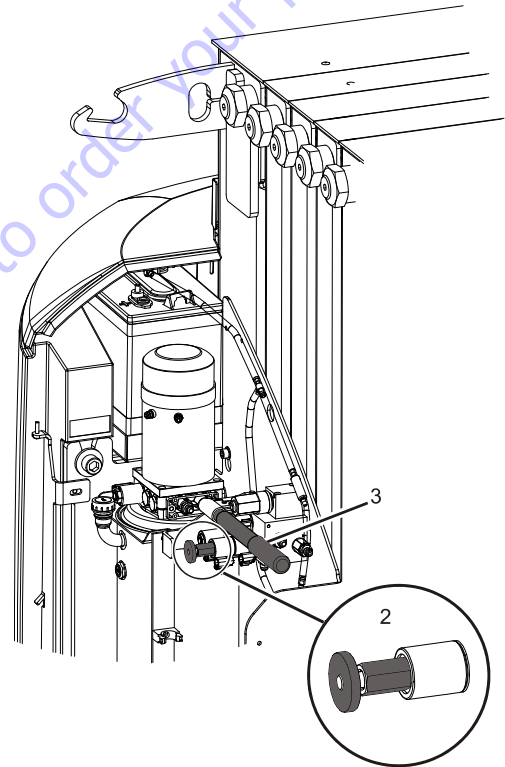

Figure 3-8. Manual Swinging Operating Devices
- control valve (2) located on the main control valves assembly (Refer to Figure 3-8).
- a hand pump (3), located on the main control valves assembly (Refer to Figure 3-8).